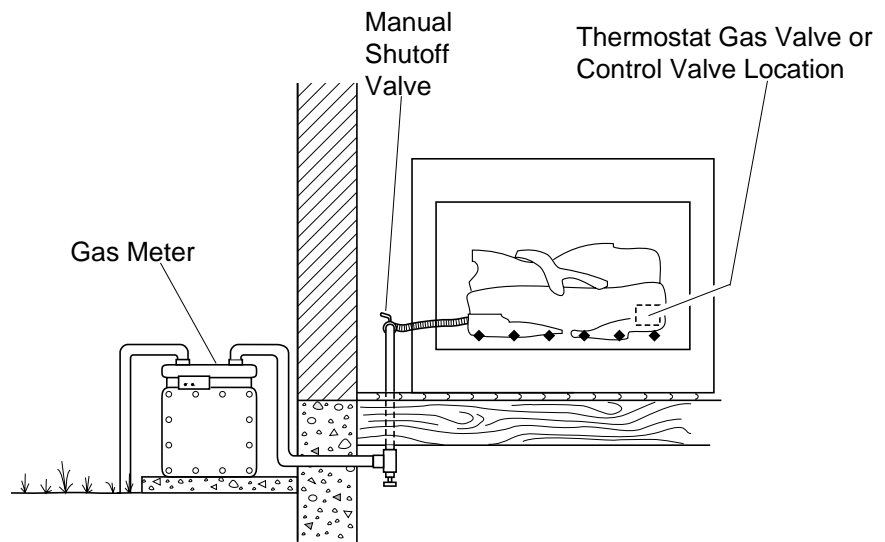

Figure 15 - Checking Gas Joints
3. Check all joints from gas meter to manual shutoff valve (see Figure 15). Apply mixture of liquid soap and water to gas joints. Bubbles forming show a leak.
4. Check all joints from manual shutoff valve to thermostat gas valve (thermostat-controlled models) or control valve (manually-controlled models) (see Figure 15). Apply mixture of liquid soap and water to gas joints. Bubbles forming show a leak.